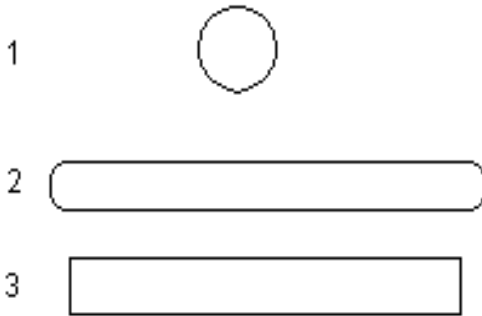

Figure 1 - Column Shapes
Shape	<p>This parameter specifies the shape of the column, see Figure 1. If coded:</p> <p style="margin-left: 40px;">1 = Round column 2 = Column with rounded ends 3 = Rectangular column</p> <p>See Notes.</p>
For a rectangular column (see Figure 1) default (blank) = 1 for concrete, width (CW) = 3 ft., length (CL) = 7 ft., #8 bars in column, and cover on top of footing = 5 ft., code: